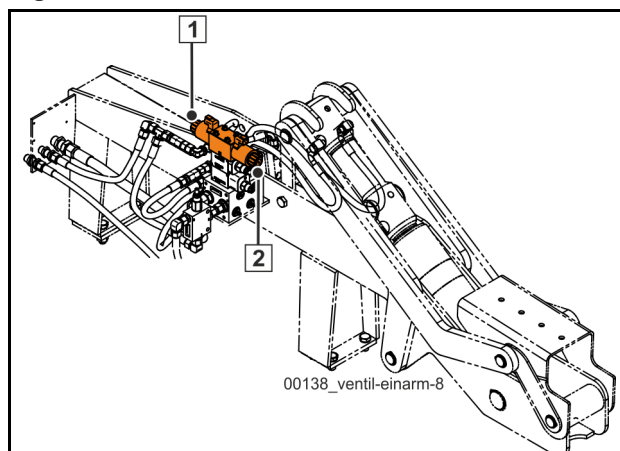
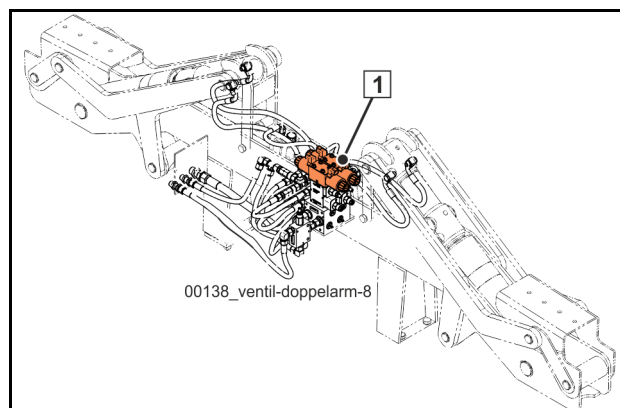

Fig. 531 Valve block on stowing boxes
Fig. 533 Valve block on stowing boxes
During emergency operation, the machine must be entered in order to access the valve block on the stowing box bracket (**Fig. 531**), (**Fig. 533**).
- Actuate the valves on stowing boxes (1) and (2) (Fig. 531) for upward and downward movements (on top of the machine).
- Actuate valves (1) (**Fig. 533**) on the stowing boxes for the correct lever arm (right- or left-hand side) for upward and downward movements.